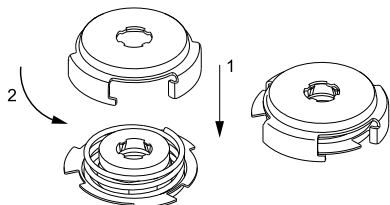

Fig. 20 Fitting the spring and driver
8. Fit spring (pos. 108) and driver (pos. 112). See fig. 20.